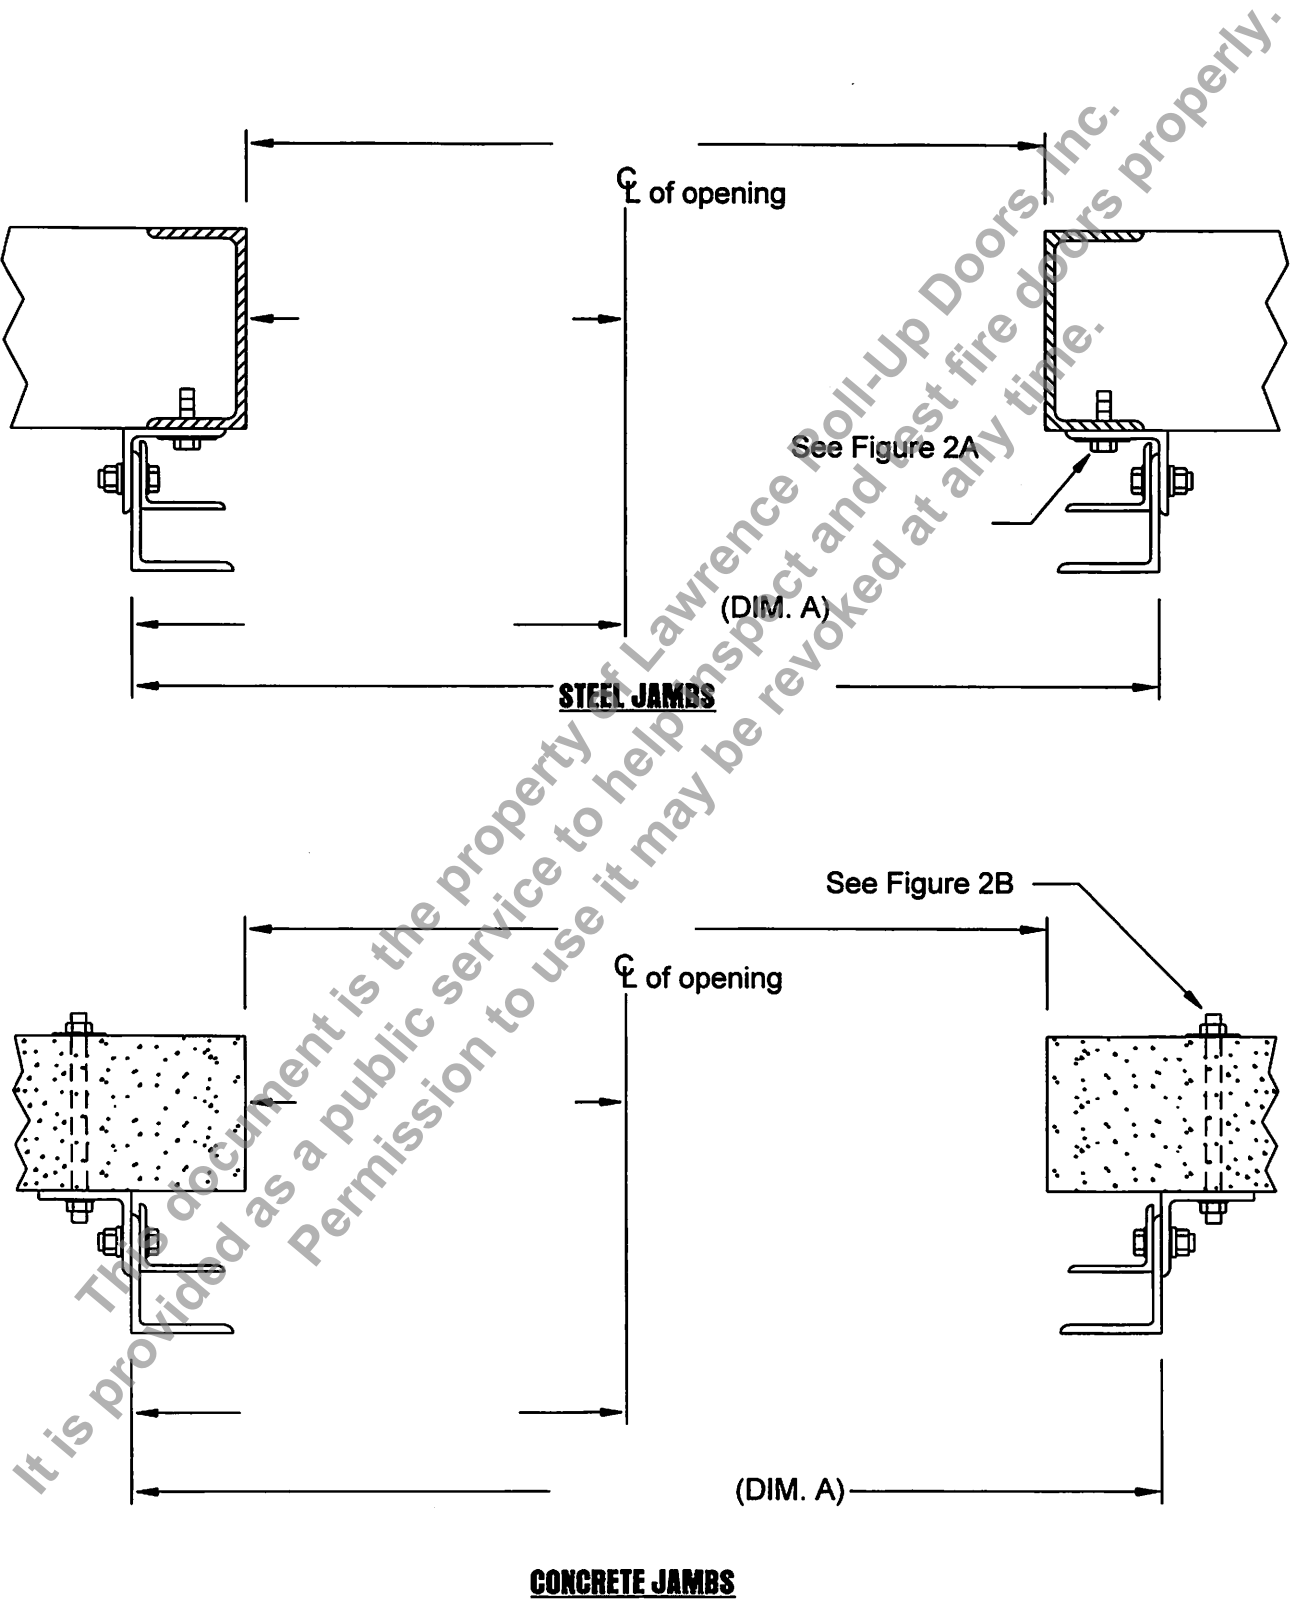

FIGURE 1
Step 1. Locate center of opening and mark the distance from center of opening to the edge of the guides as shown in Figure 1.